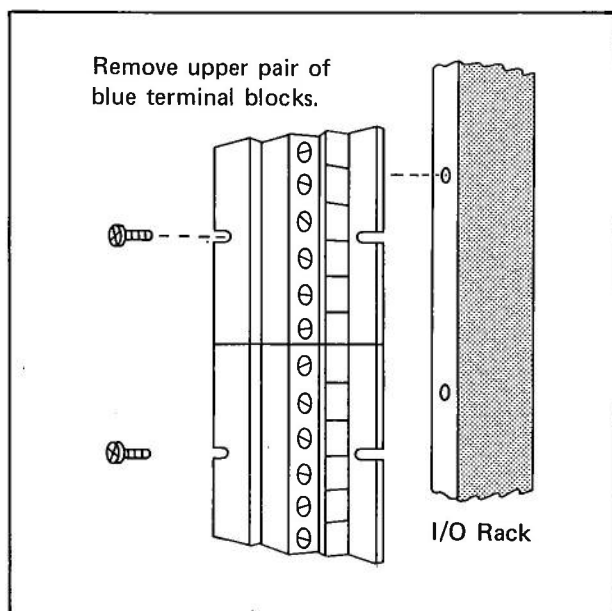
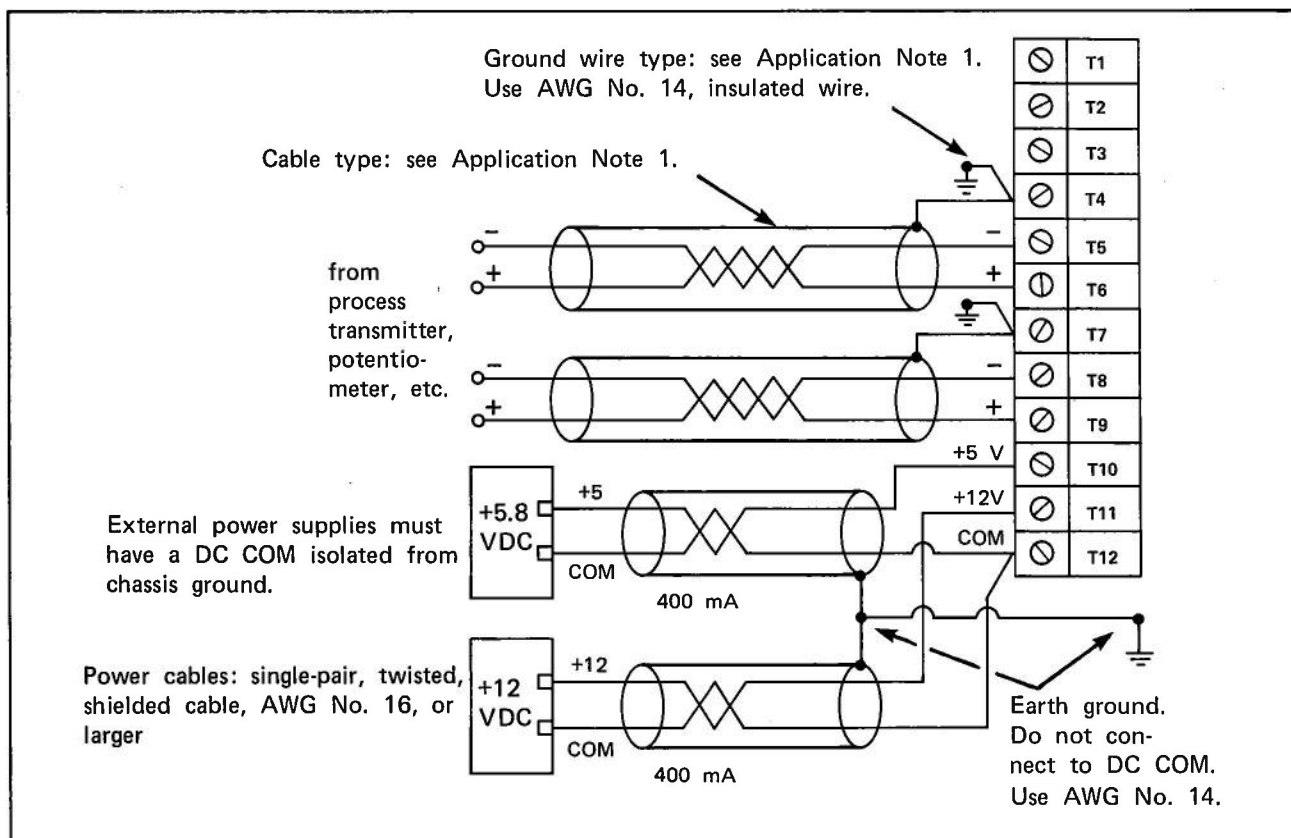
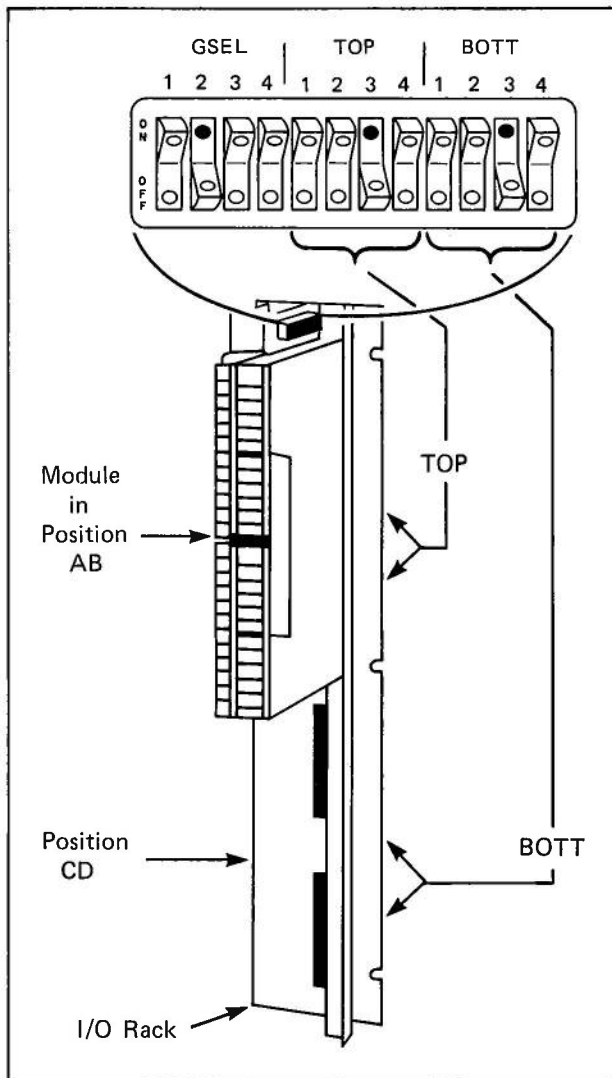

Figure 3 – Terminal Block Removal
Figure 4 – Connection Diagram (typical)
Figure 5 — Rack Switch Location
Wiring — Refer to the system drawings and determine the exact I/O Rack Positions in which the Module will be placed. (See Figure 5 for an explanation of "position.") Use a screwdriver to remove the terminal block adjacent to the top half of the Module to allow for its width. (See Figure 3.) Field wiring connects only to the lower terminals. Follow system wiring diagrams and carefully observe the type of conductor specified. A typical connection diagram is shown in Figure 4.
Wire the external power supplies with the DC COM isolated from chassis ground. Follow Figure 4. Failure to do so will result in improper operation and/or equipment damage.
not straddle Positions B and C. See Figure 5.) It is important that it be placed according to the user program Reference Number scheme.
Step 3 — At the top right-hand side of **that** I/O Rack, locate the Rack Switch assembly. (See Figure 5.) Note that it is divided into 3 groups of 4 rocker switches each. Locate those that make up the GSEL area.
3. Both external power supplies should be powered by the same AC line that powers the Processor. The common side of both external supplies must be connected to the Module's COM terminal (T12). See Figure 4.